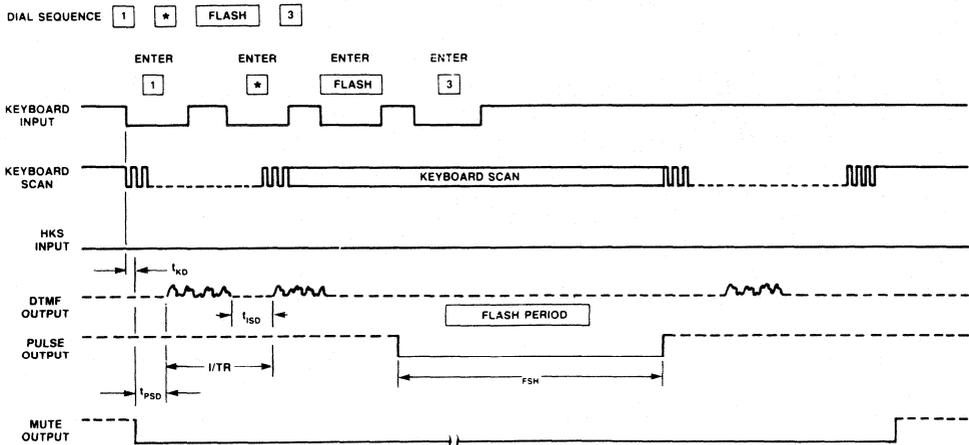
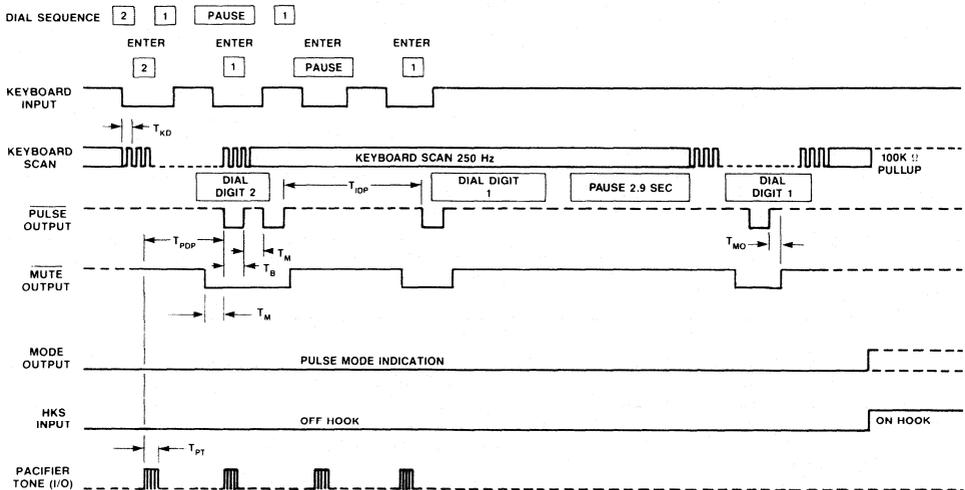

FIGURE 5 – TONE MODE TIMING
FIGURE 6 – PULSE MODE TIMING
In Pulse Mode,  $\overline{\text{MUTE1}}$  removes the receiver or the network from the line. Different circuitry is required for Tone and Pulse muting external to the IC and applications using both modes would not necessarily share circuitry.  $\overline{\text{MUTE1}}$  timing is shown in Figure 6 for Pulse Mode signaling and Figure 5 for Tone Mode signaling.
Output. Pin 24 (18). This pin has a dual function determined by the dialing mode selected. In Pulse Mode, the pin is an output consisting of an open drain N-channel device with zener protection. The break timing at this output meets Bell Telephone and EIA specifications for loop disconnect signaling. The Make/Break ratio is not user selectable in the 18-pin version. PULSE OUTPUT also provides the break timing for the hook flash function. Figure 6 shows this timing.
- Figure 6 illustrates this relationship.